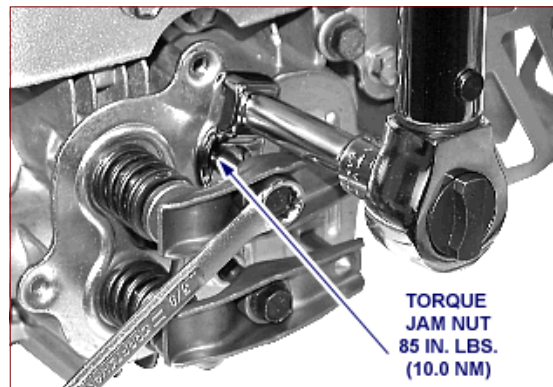

Fig. 23 - Locking Jam Nut
7. While holding screw, torque jam nut to 85 in. Lbs. (10Nm) and recheck clearance, Fig. 23. Recheck valve clearances and readjust, if required.